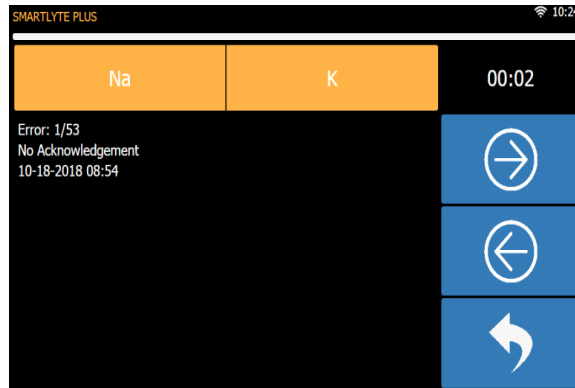

Figure 6-21: Error screen showing “No Acknowledgment” error
- Pressing the Error button will bring up the Error list, Figure 6-21. The most recent error is shown with date and time error occurred. See section 6.2 for troubleshooting steps.